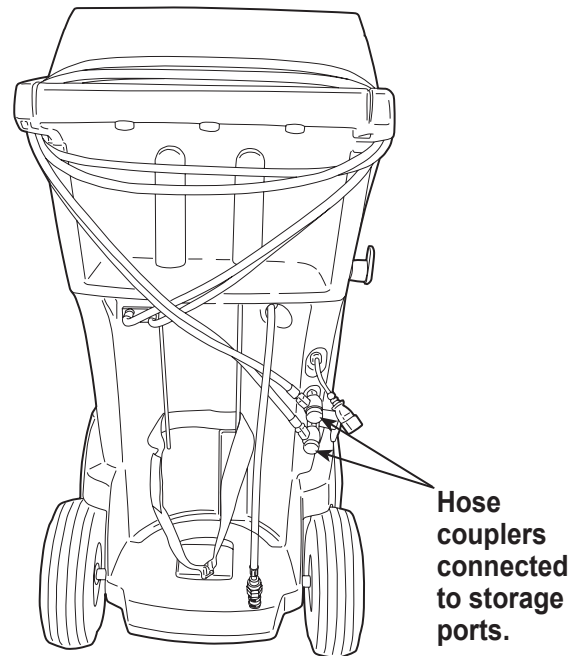

Figure 32
2. Loop the service hoses around the handle twice and attach them to the storage ports. See Figure 32.